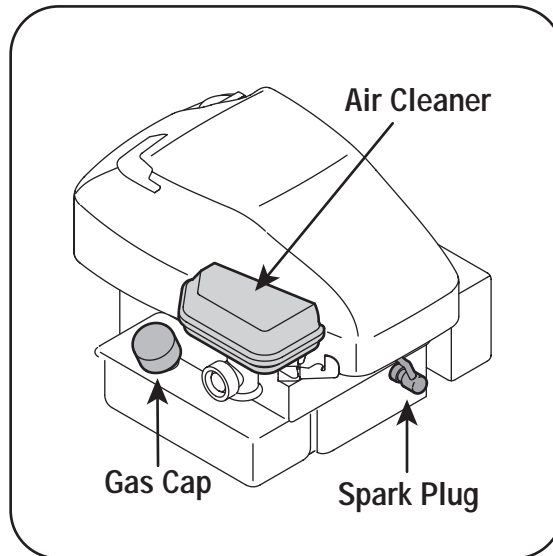

Figure 5-2
3. Clean the spark plug and reset the gap to .030" at least once a season. Refer to the Engine manual for correct spark plug type. Refer to Figure 5-2.
1. Disconnect spark plug wire. Drain gasoline from lawn mower, or place a piece of plastic under the gas cap. See Figure 5-2.